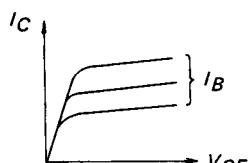

Fig. 11
- The characteristics of this drive transistor are indicated in Fig. 11. The variation of collector current  $I_C$  relative to collector-emitter voltage  $V_{CE}$  is not sinusoidal, but produces a square wave that causes unnecessary vibration in the motor.